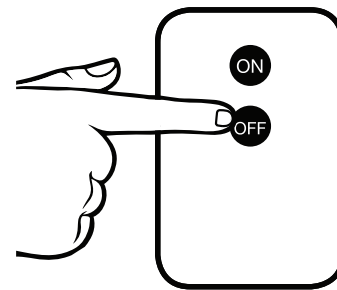

Figure 11 - Remote Stop - Hold Stop Button
4. To stop generator remotely hold the **OFF** button on the wireless control (see figure 11). The generator may run for an additional 5 seconds as it goes through a cool down cycle before shutting off.